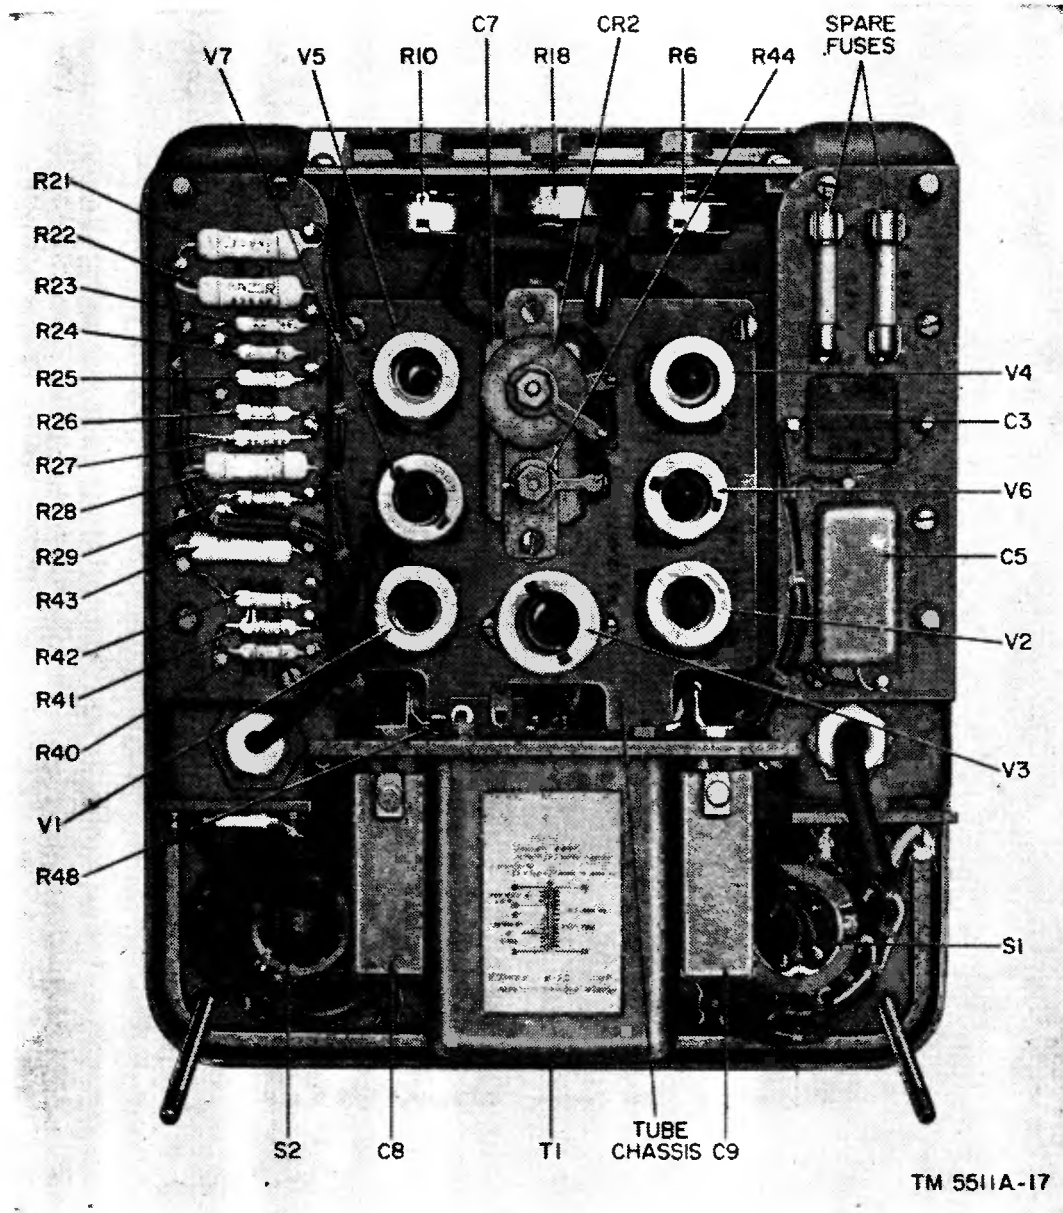

Figure 17. Multimeter, case removed, rear view.
<p>c. Resistors R21 through R29 are not within 1 percent of correct value.</p>	<p>c. Find defective resistor or resistors and replace them (fig. 17).</p>
Capacitor C3 or C5 open.	Replace capacitor C3 or C5 (fig. 17).
- (1) To remove the mounting plates, proceed as follows:
- (2) To reassemble and install the mounting plates, reverse the disassembly procedures given in (1) above.
d. Tube Chassis (fig. 17).
- (1) To remove the tube chassis, proceed as follows:
(2) To reassemble and install the tube chassis, reverse the disassembly procedures given in (1) above.
e. Power Transformer T1 and Power Supply Filter Capacitors C8 and C9 (fig. 17).
(1) To remove the power transformer and power supply filter capacitors, proceed as follows: